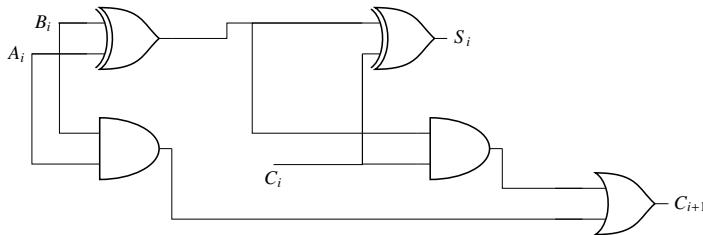

Fig. 3.23: Full Adder
39. Fig. 3.23 shows the i th full-adder block of a binary adder circuit. C_i is the input